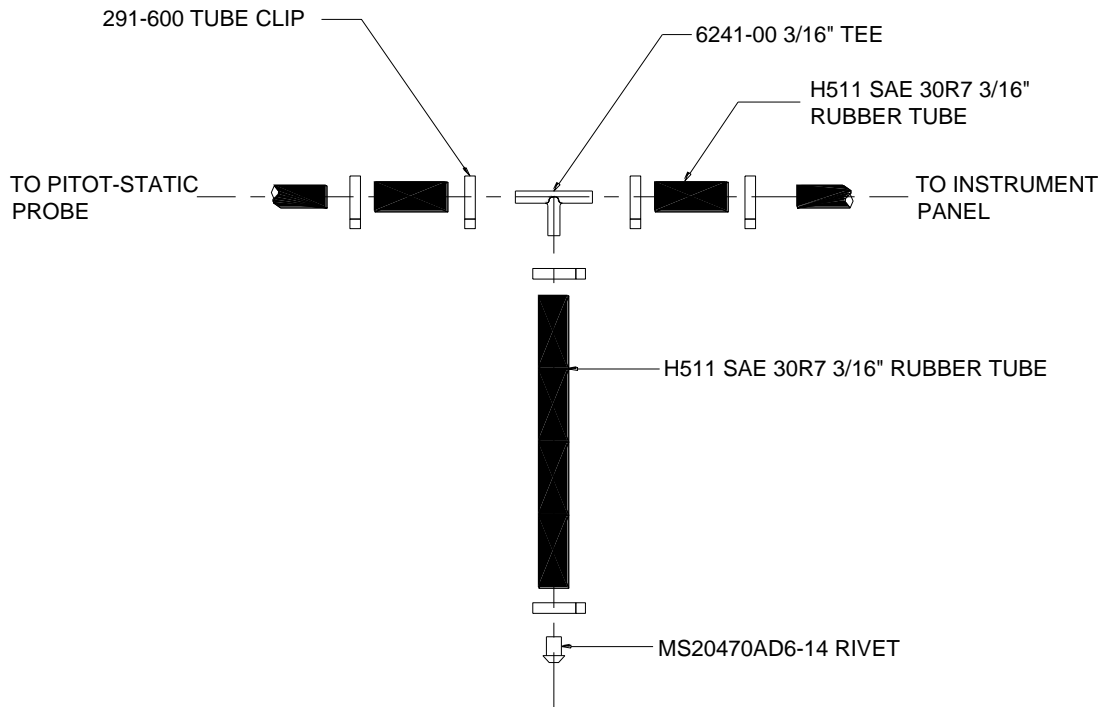

Figure 9-2 – Pitot drain installation (S/N GA8-00-004 to GA8-02-019)
3. Cut the pitot line and install a drain line using a 6421-00 tee, 291-600 tube clips, H511 SAE 30R7 3/16" rubber hose and an MS20470AD6-14 rivet. Refer to Figure 9-2.